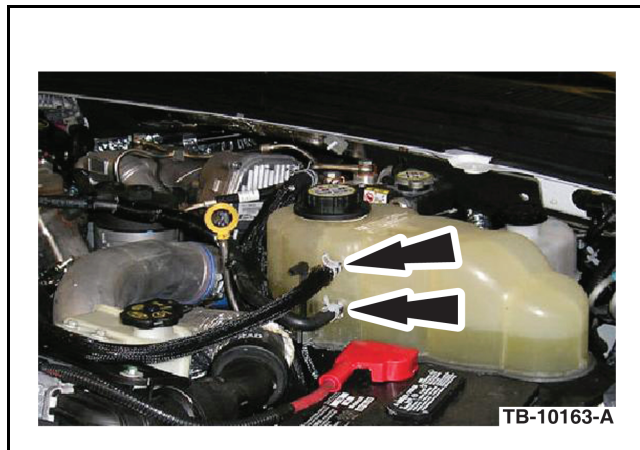

Figure 1 - Article 11-12-4
- a. Dual-port design requires the degas bottle to be replaced with the single-port design and a new degas bottle cap. (Figure 1) Proceed to Step 3.